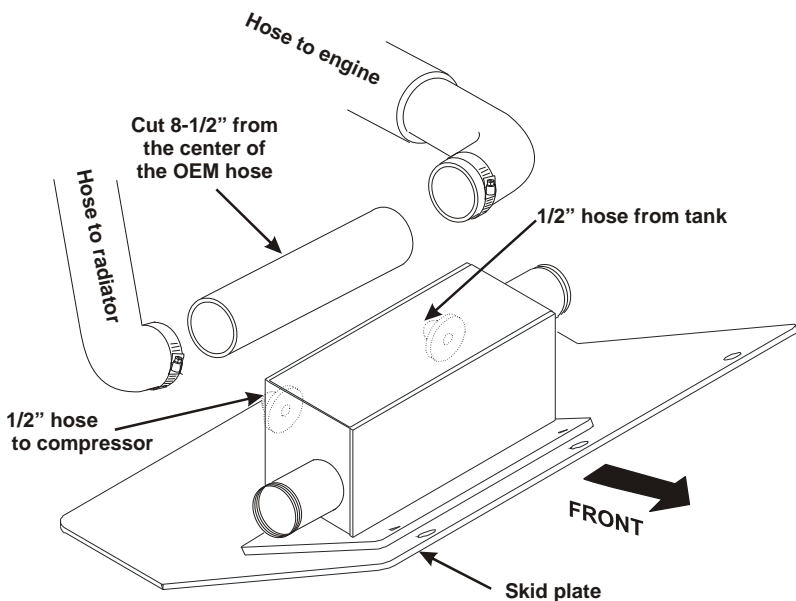

Figure 5.1
- ☐ Connect the cooler spigots to the cut ends of the lower radiator hose so that the cooler is between the radiator and engine with the oil connection fittings toward the engine (Figure 5.1). Tighten the hose clamps.